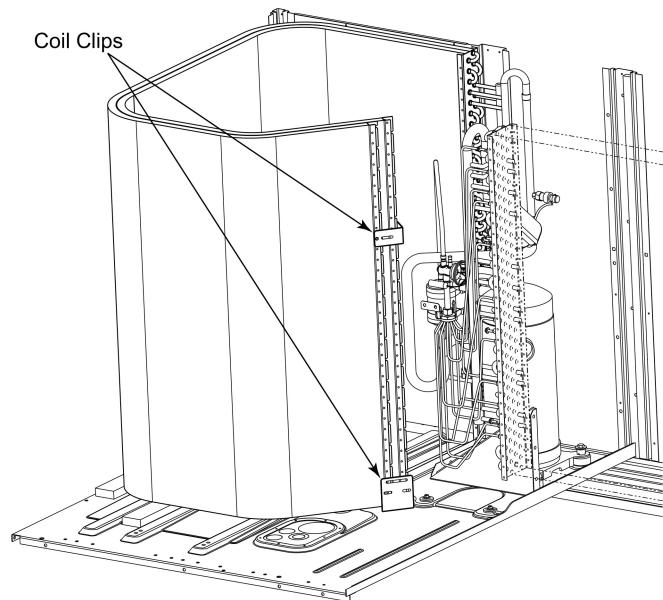

Fig. 15 — Condenser Coil Clips
5. Remove the screws from both sides of the upper and lower coil retaining clips on the hairpin end of the coil tube sheets. See Fig. 15.